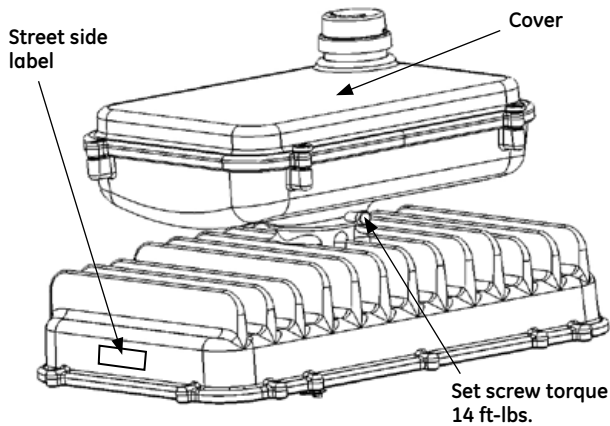

FIGURE 2
NOTE: Street side of optic is labeled as shown in Figure 2.
- To rotate, loosen set screw shown in Figure 2.